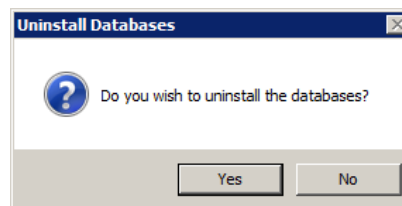

Figure 2-34 Uninstall Databases
5. A dialog box will open to confirm the removal of the AEDT Databases. Click Yes to uninstall (Figure 2-34).